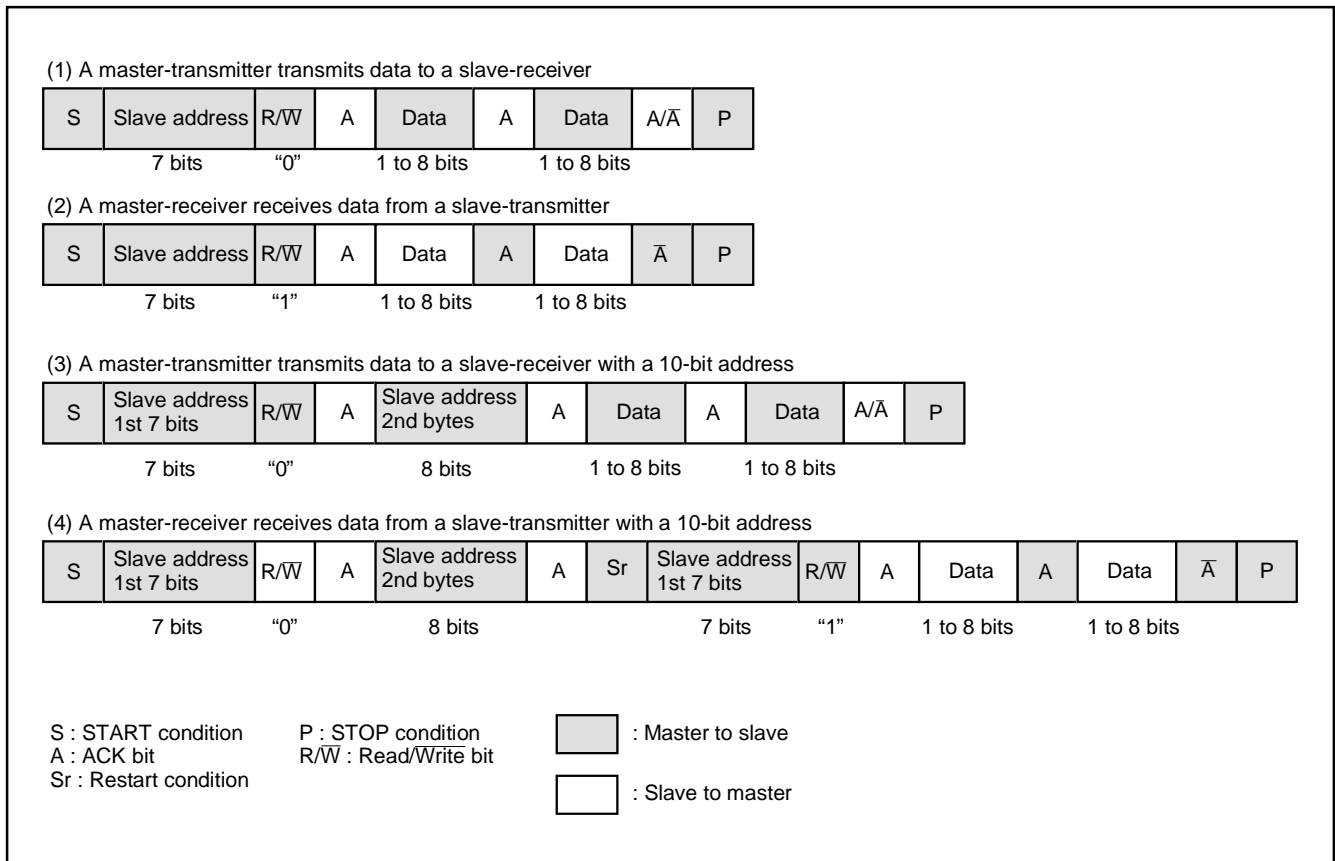

Fig. 77 Address data communication format
① 7-bit addressing format
To adapt the 7-bit addressing format, set the 10BIT SAD bit of the I²C control register (S1D: address 0014₁₆) to "0". The first 7-bit address data transmitted from the master is compared with the high-order 7-bit slave address stored in the I²C slave address register. At the time of this comparison, address comparison of the RWB bit of the I²C slave address register is not performed. For the data transmission format when the 7-bit addressing format is selected, refer to Figure 77, (1) and (2).
② 10-bit addressing format
parison, an address comparison between the RWB bit of the I²C slave address register and the R \bar{W} bit which is the last bit of the address data transmitted from the master is made. In the 10-bit addressing mode, the RWB bit which is the last bit of the address data not only specifies the direction of communication for control data, but also is processed as an address data bit. When the first-byte address data agree with the slave address, the AAS bit of the I²C status register (S1: address 0013₁₆) is set to "1." After the second-byte address data is stored into the I²C data shift register (S0: address 0011₁₆), perform an address comparison between the second-byte data and the slave address by software. When the address data of the 2 bytes agree with the slave address, set the RWB bit of the I²C slave address register to "1" by software. This processing can make the 7-bit slave address and R \bar{W} data agree, which are received after a RESTART condition is detected, with the value of the I²C slave address register. For the data transmission format when the 10-bit addressing format is selected, refer to Figure 77, (3) and (4).